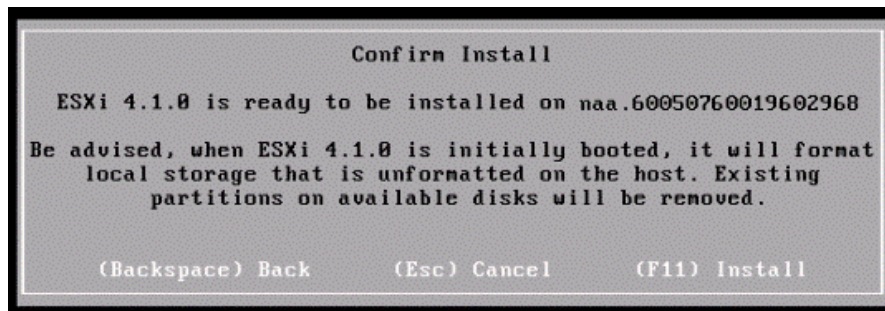

Figure 5-88 Confirm Install
4. Press F11 to confirm installation on the Boot LUN from the storage, as shown in Figure 5-88.